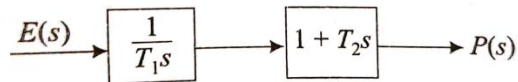

figure.1
- 4 Identify control action for the controller represented as shown in figure.1